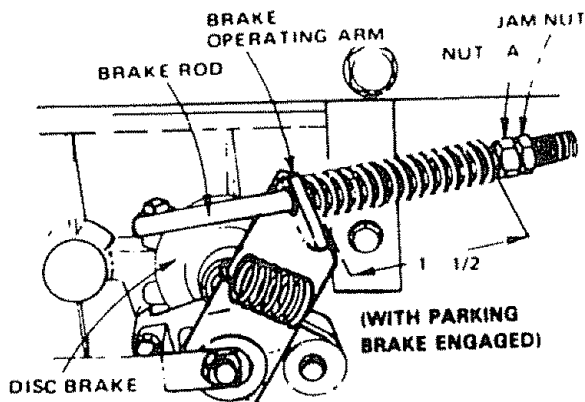

FIGURE 10
This tractor is equipped with an adjustable brake system mounted on the right side of the transaxle (Fig. 10).
- If distance is other than 1-1/2" loosen jam nut (Fig. 10) and turn nut "A" until distance becomes 1-1/2", retighten jam nut against nut "A".